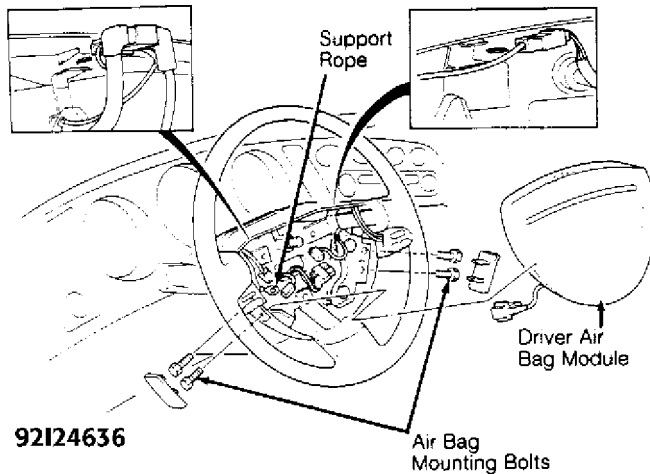

Fig. 3: Removing/Installing Air Bag Module (Driver-Side)
2) Driver-side air bag module is located on center of steering wheel. See Fig. 3. Remove side covers and mounting bolts. Disconnect support rope and harness connector(s). Remove air bag module from steering wheel. To install, reverse removal procedure.